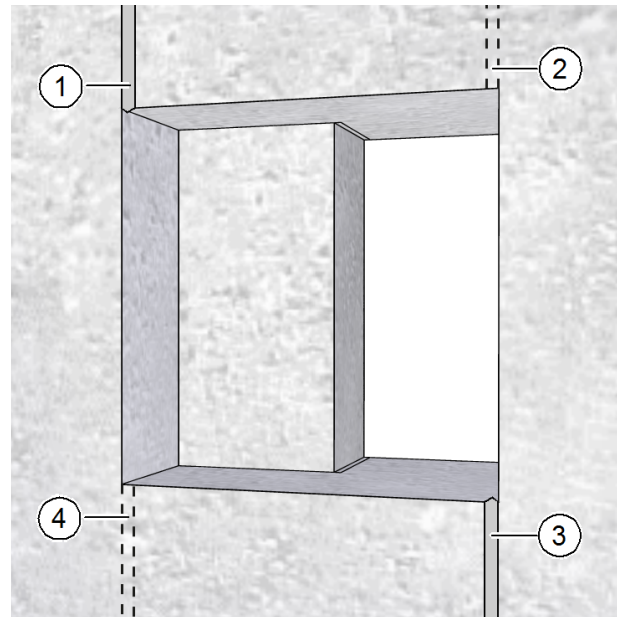

Fig. 8: Chasing out channels for connecting cables
- ▶ Chase one channel for the mains cable (item 1 in Fig. 8) and one for the control cable, if required (item 3 in Fig. 8).
- The wall channels in Fig. 8 are shown by way of example. Alternative cable ducts are shown as dashed lines (items 2 and 4 in Fig. 8). For the subsequent electrical installation work, we recommend running the mains cable from the left and the control cable (if used) from the right at the wall breakthrough.